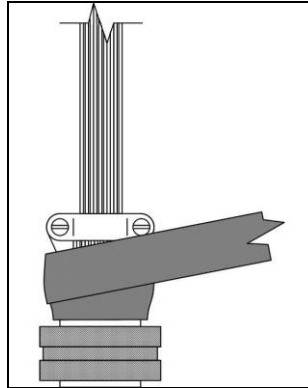

Figure 1
3.3.2 Begin wrapping the StretchSeal™ Tape around the connector to be protected, behind the coupling ring (nut). Stretch the tape 25 to 50% to ensure good compression around the connector body and rear accessories. Remove release film as required. (see figure 1)